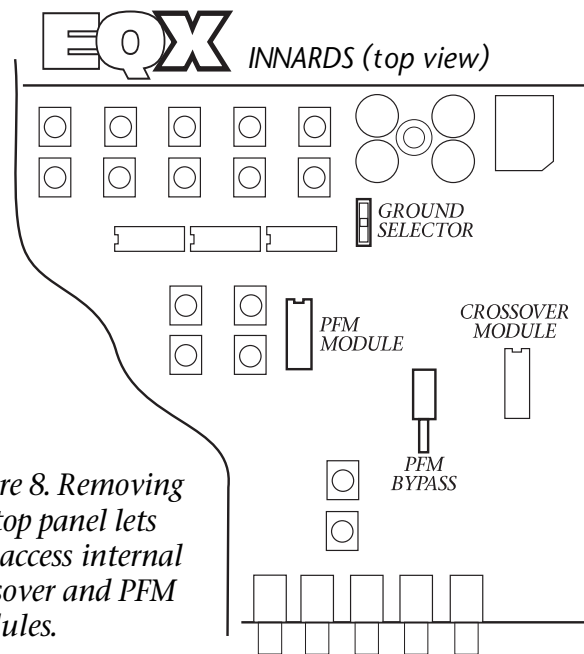

Figure 8. Removing the top panel lets you access internal crossover and PFM modules.
The crossover and PFM filter modules, as well as the ground isolation selector, are internal and can be accessed by removing the four top screws and lifting the top panel off the base (refer to Figure 8 on page 20). Be sure to turn off the power before you open the EQX.
2. Remove the top panel and locate the crossover or Performance Frequency Match module, as shown in Figure 8 (on the opposite page).
2. If the condition still exists, turn the system off and remove the top panel of the EQX (refer to Figure 8). Locate the GROUND SELECTOR and switch it to a different position.